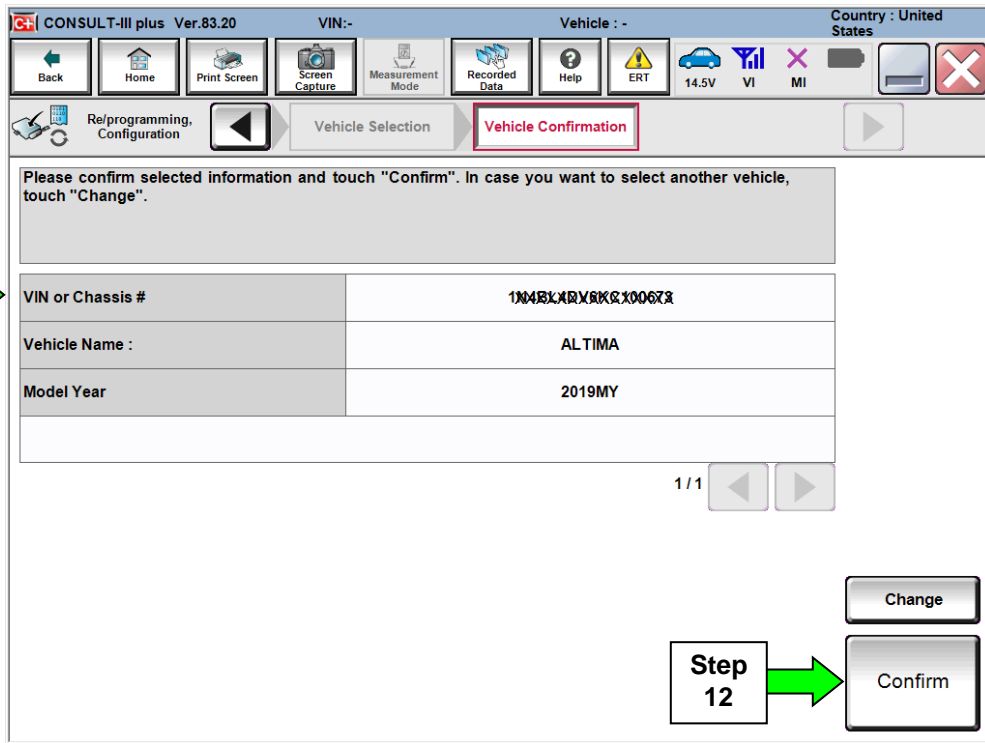

Figure 3
10. Use **Automatic Selection (VIN)** tab to select the vehicle (the screen in Figure 3 will display when complete).